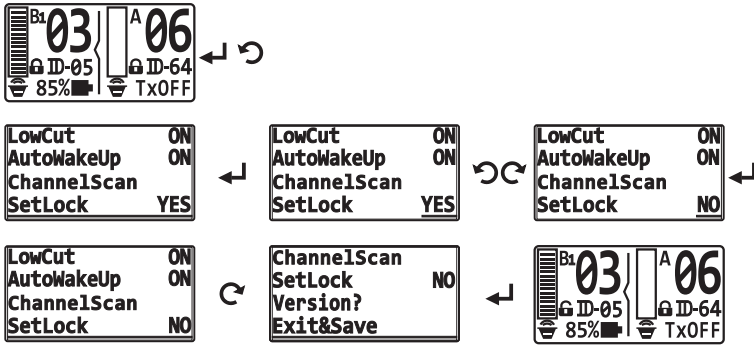

Fig. 27
9. Setting Parameter Lock, see Fig. 27: